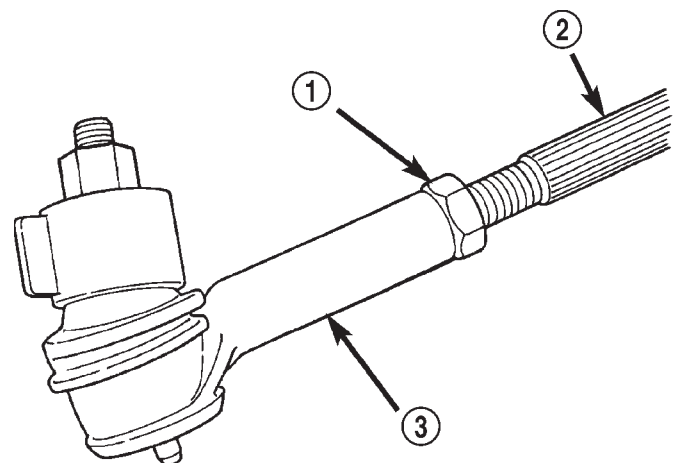

Fig. 4 Toe Adjustment
(3) Adjust the wheel toe position by turning the tie rod as necessary (Fig. 4).